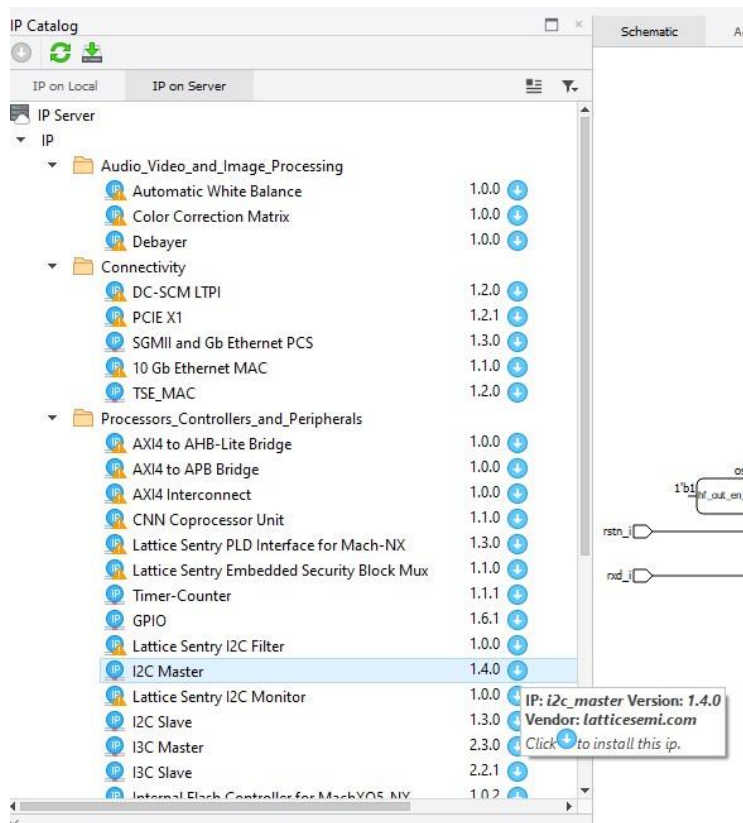

Figure 3.5. Propel Builder – I²C IP on Server
1. Click on the IP on Server tab and find the I²C Master in the list, as shown in Figure 3.5. and click to download it.